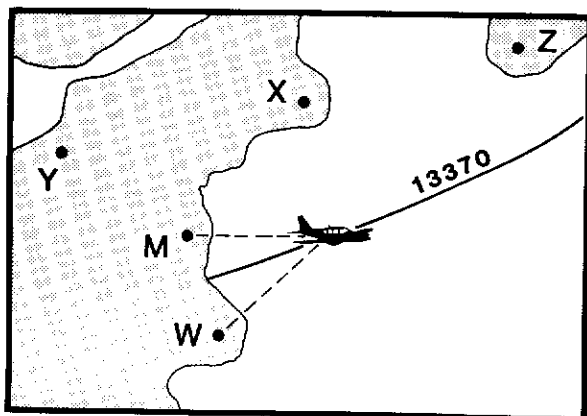
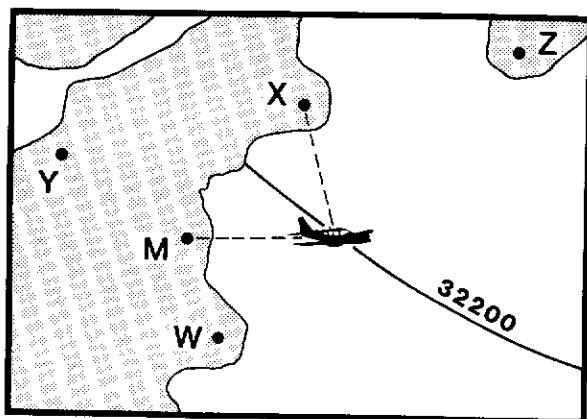
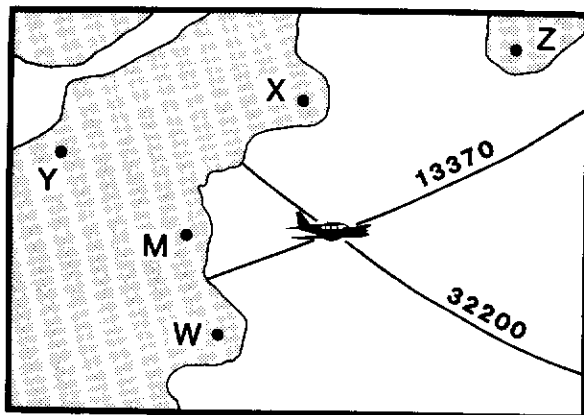

Figure 5
Figure 6
Figure 7
The receiver processes the signal data and measures the arrival time difference (TD) between the LORAN-C signals from the master and each of the secondary transmitters. Each of the TDs is displayed by a digital readout as TDW, TDX, TDY, or TDZ. In this example the time difference between the master and the "W" secondary (TDW) is 13370 usec. This places the plane's location somewhere along the 13370 LOP (see Figure 5). The TD between the master and the "X" secondary (TDX) is 32200 usec. This places the airplane somewhere along the 32200 LOP (see Figure 6). Where the two LOPs cross is the location of the airplane (see Figure 7).